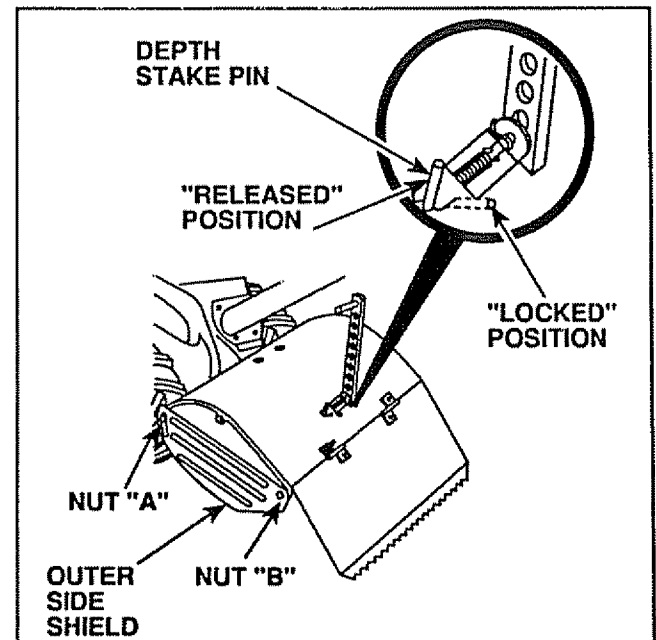

FIGURE 13
- Release Depth Stake Pin (Fig. 13). Pull the Depth Stake up for increased tilling depth. Place Depth Stake Pin in hole of Depth Stake to lock in position.
The front of the Outer Side Shields are slotted so that they can be raised for deep tilling and lowered for shallow tilling to protect small plants from being buried. Loosen Nut "A" in slot and Nut "B" (Fig. 13). Move Shield to desired position (both sides). Retighten nuts.